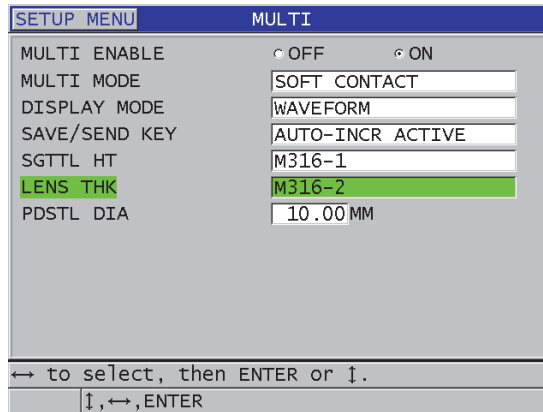

Figure 7-9 Setting multi-measurement parameters in the soft contact mode
5. In the **MULTI** screen (see Figure 7-9 on page 119):